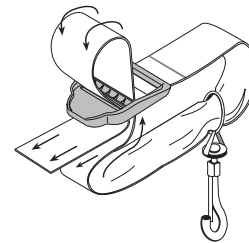

Figure 4
2. Pull the strap over the cross bar and down through the slot in the buckle. See Figure 4.